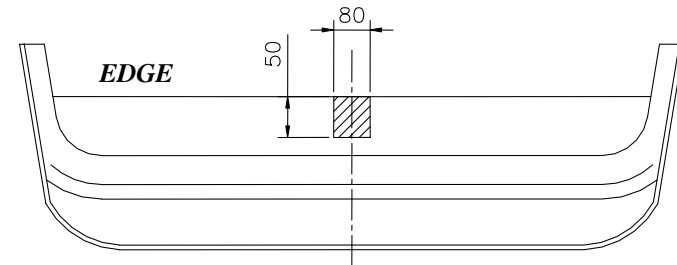

Fig. 2
4. Put the main bar of the towing hitch (pos. 1) to chassis members and fix it using bolts M12x40mm (pos. 5) through original holes in members. Elements (pos. 4) slide through holes in rear slice.
6. Assemble the bumper after cut out fragment according to figure 2.
7. Fix body of the automat and place tow-ball according to supplied instruction. Note! Remember to place socket plate (pos. 3) as shown on the drawing 1.